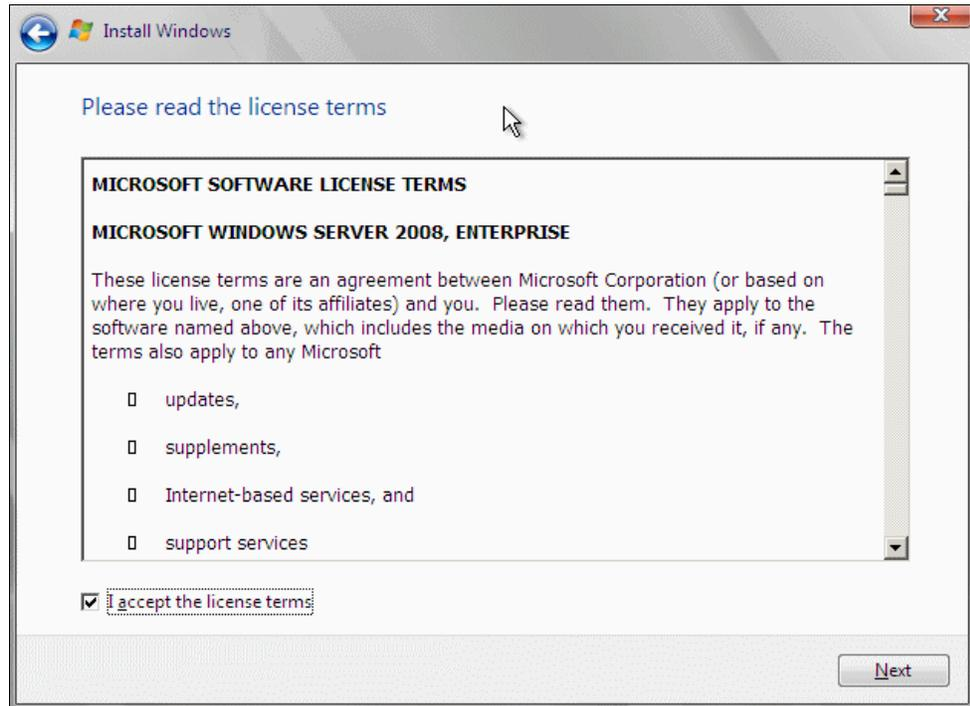

Figure 10-42 Accepting the license terms
5. Select the **I accept the license terms** check box and click **Next**, as shown in Figure 10-42.